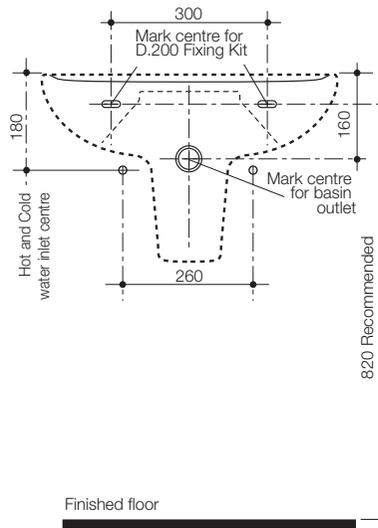

Fig. 1
- 1- Mark centre of basin outlet on finished wall at the recommended height as detailed in **Fig.1** and prepare inlet and outlet connections.